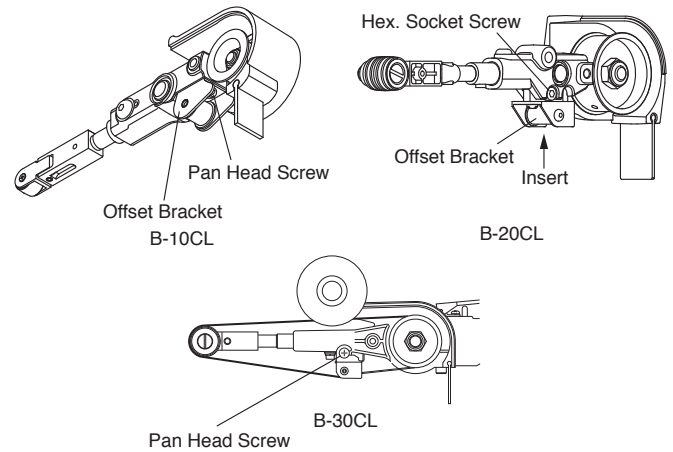

Fig. 17
- (2) B-20CL, B-30CL (Fig. 17)